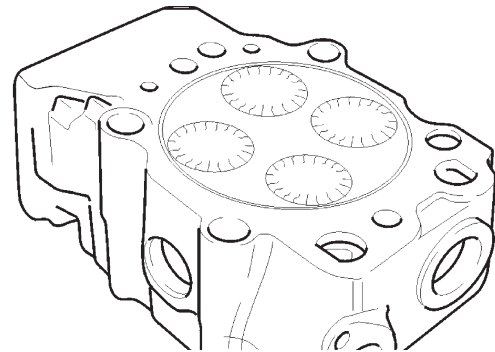

Figure 5-22
2. Install a valve and weld it to the valve seat (**Figure 5-22**). Cool with water.